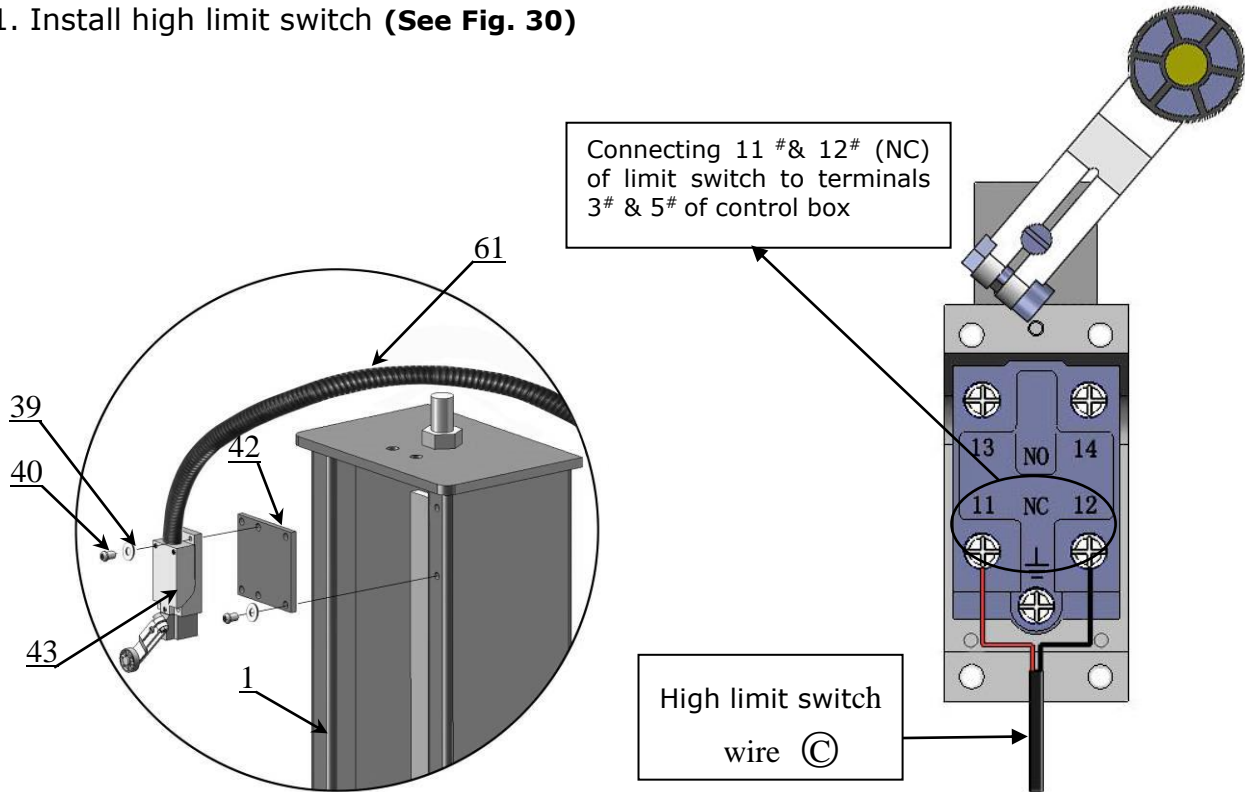

Fig. 30
1. Install high limit switch (See Fig. 30)